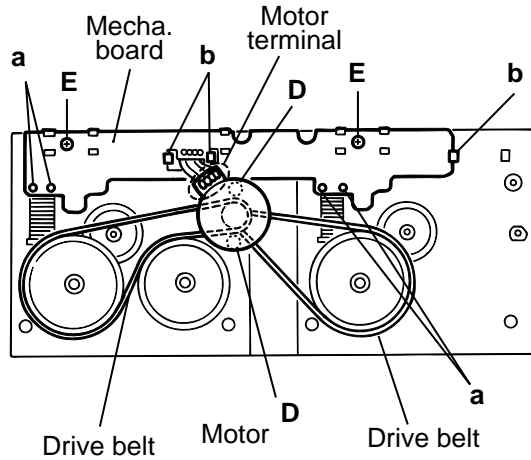

Fig.5
1. Unsolder the four parts **a** on the solenoid coil terminal.(Fig.5)
2. Remove the two screws **E** fixing the board.(Fig.5)
3. Unhook the three parts **b** from the board.(Fig.5)
4. Remove the mechanism board.(Fig.5)